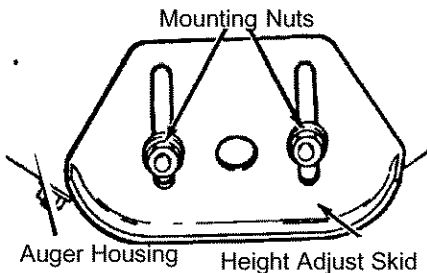

Figure 25
This snow thrower is equipped with two height adjustment skids, located on the outside of the auger housing. See Figure 25.
4. Loosen the mounting nuts that hold the adjustable skids. To bring the front of the snow thrower down, raise the adjustable skids. Tighten the mounting nuts. See Figure 25.